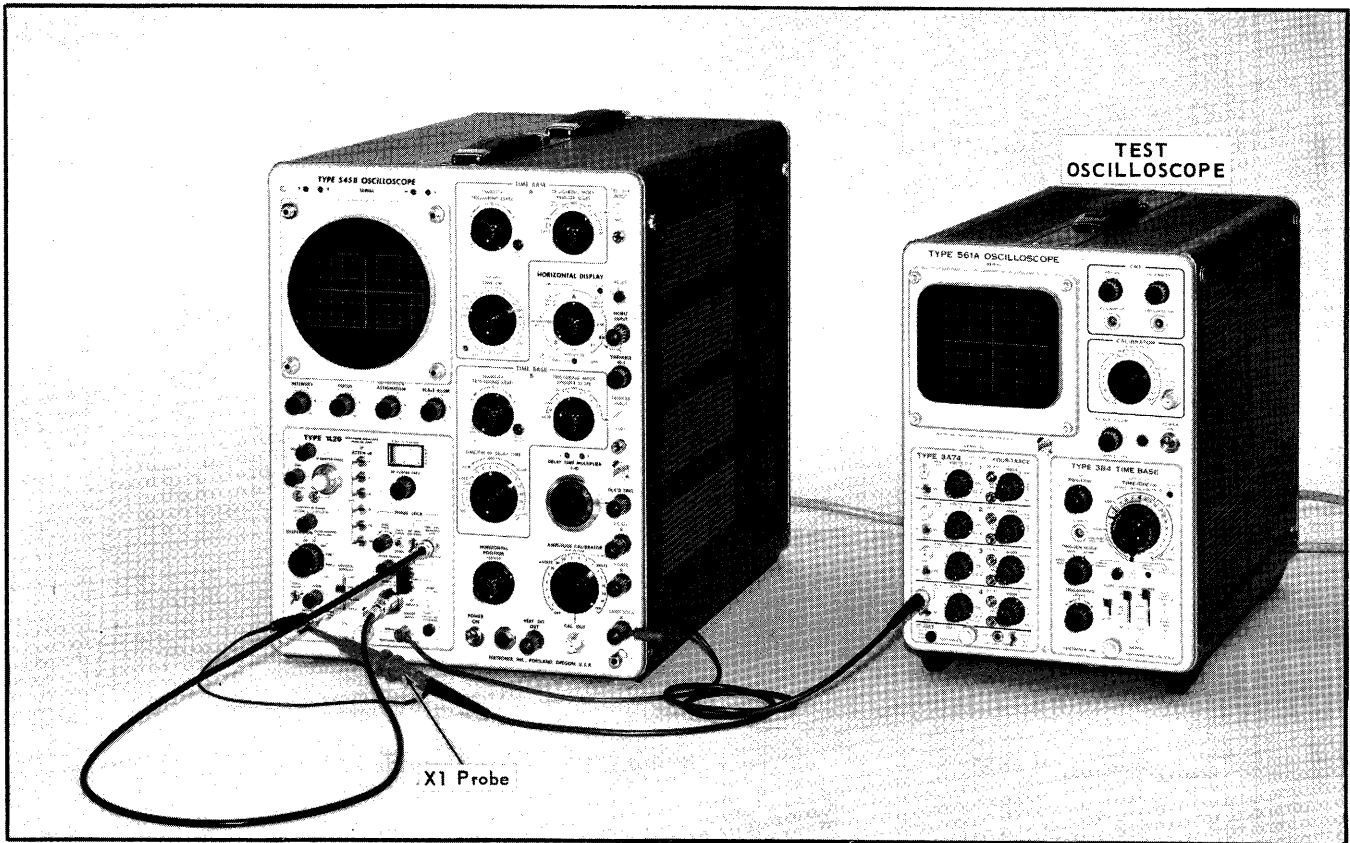

Fig. 6-23. Setup for checking TO RECORDER Output (Step 17).
- a. Connect the equipment as shown in Fig. 6-23.